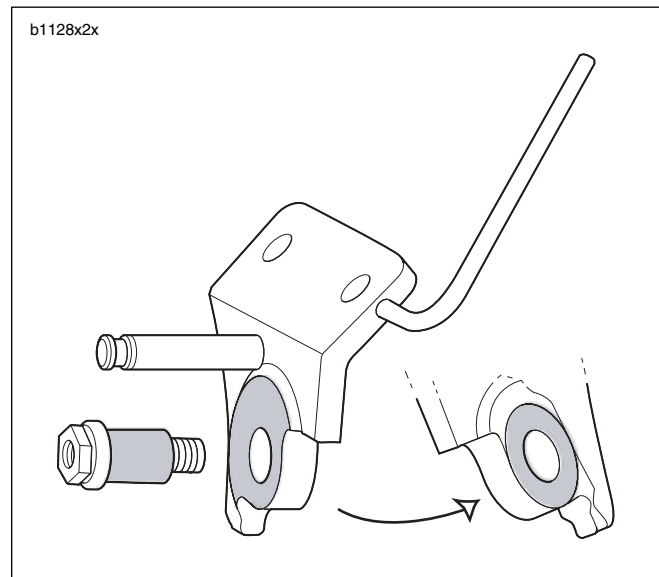

Figure 4. Lubricating Points (Shaded Areas)
1. Install sidestand leg (1).
- a. See Figure 4. Lubricate sidestand pivot bolt and mating portions on sidestand bracket with WHEEL BEARING GREASE (Part No. 99855-89).